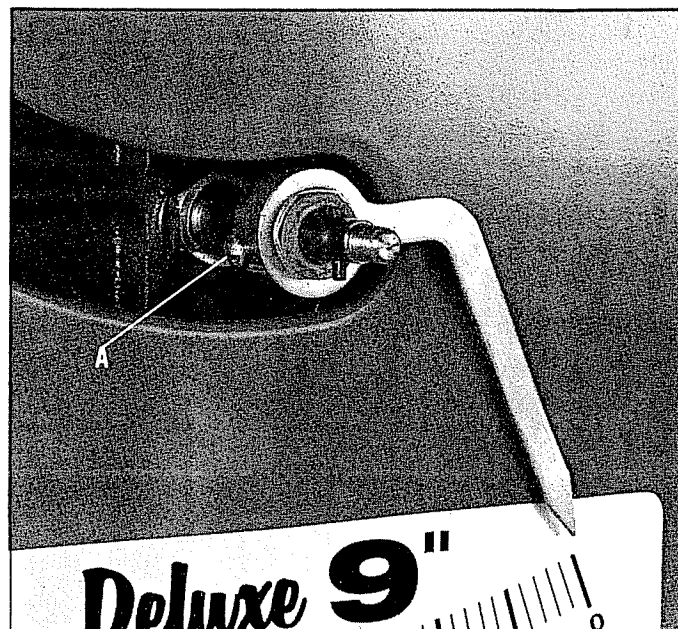

Fig. 11.
5. When you are certain the blade stops at 90 degrees to the table, set the pointer at the 0 degree mark on the scale by removing raising handwheel and lock knob, loosen screw (A) Fig. 11 and move the pointer to 0 degree.